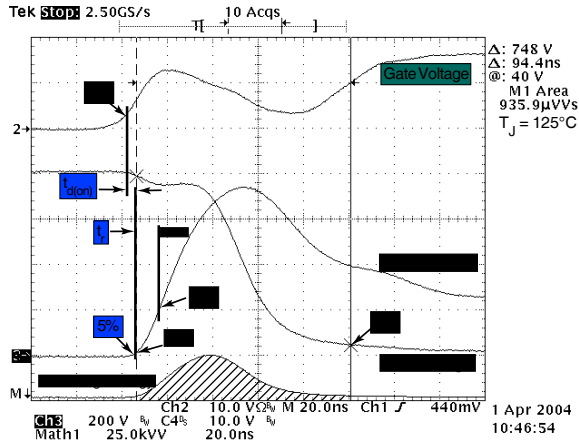

Figure 18, Turn-on Switching Waveforms and Definitions
① Repetitive Rating: Pulse width limited by maximum junction temperature
② Pulse Test: Pulse width < 380 μs , Duty Cycle < 2%
③ See MIL-STD-750 Method 3471
④ Starting $T_j = +25^\circ C$, $L = 18.06mH$, $R_G = 25\Omega$, Peak $I_L = 12A$
⑤ dv/dt numbers reflect the limitations of the test circuit rather than the device itself. $I_S \leq I_D - 12A$, $di/dt \leq 700A/\mu s$, $v_R \leq 1200$, $T_j \leq 150^\circ C$
⑥ E_{on} includes diode reverse recovery. See figures 18, 20.